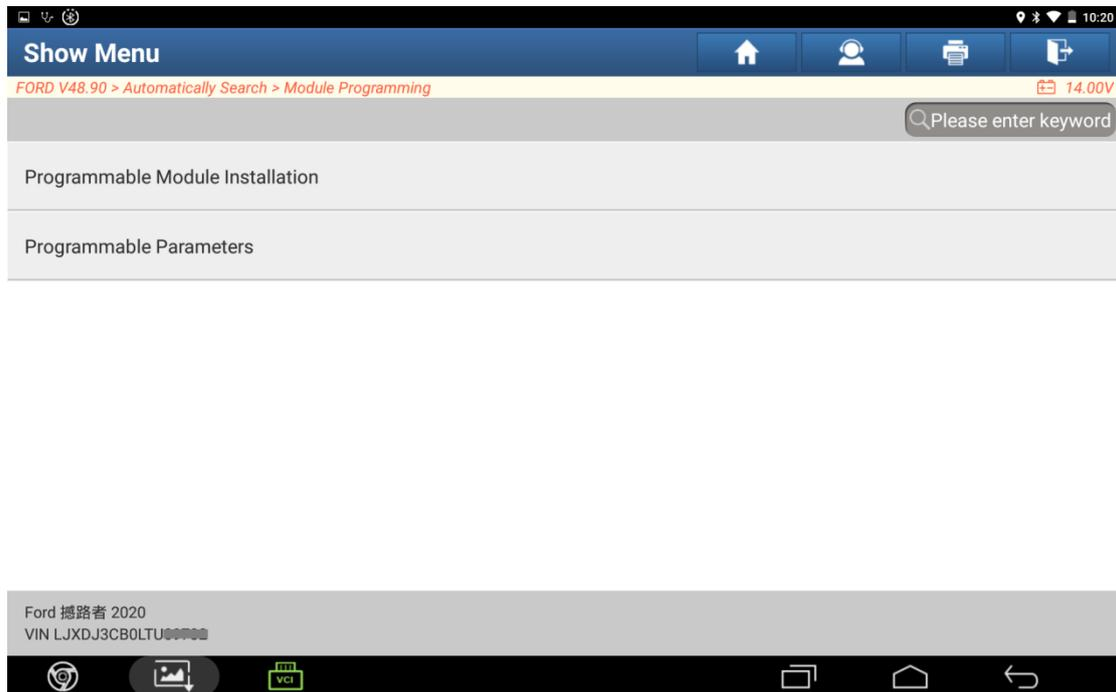

Figure C5
4. Choose Programmable Module Installation. See Figure C5.